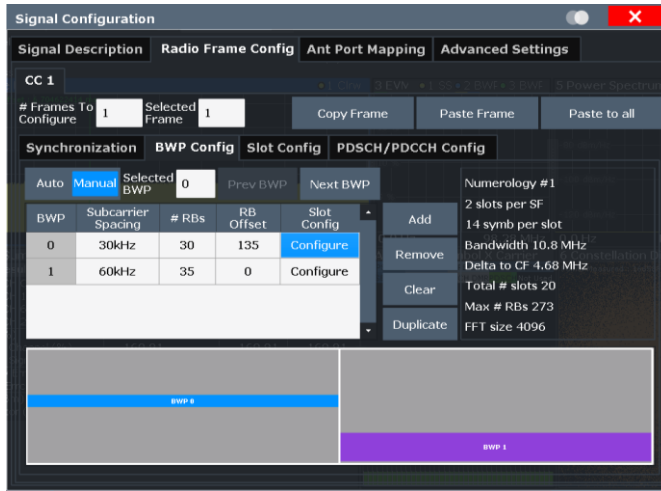

Fig. 2-12: BWP configuration settings in Radio Frame Config menu
- 1 BWP 0 and 1 needs to be configured as shown in Fig. 2-12